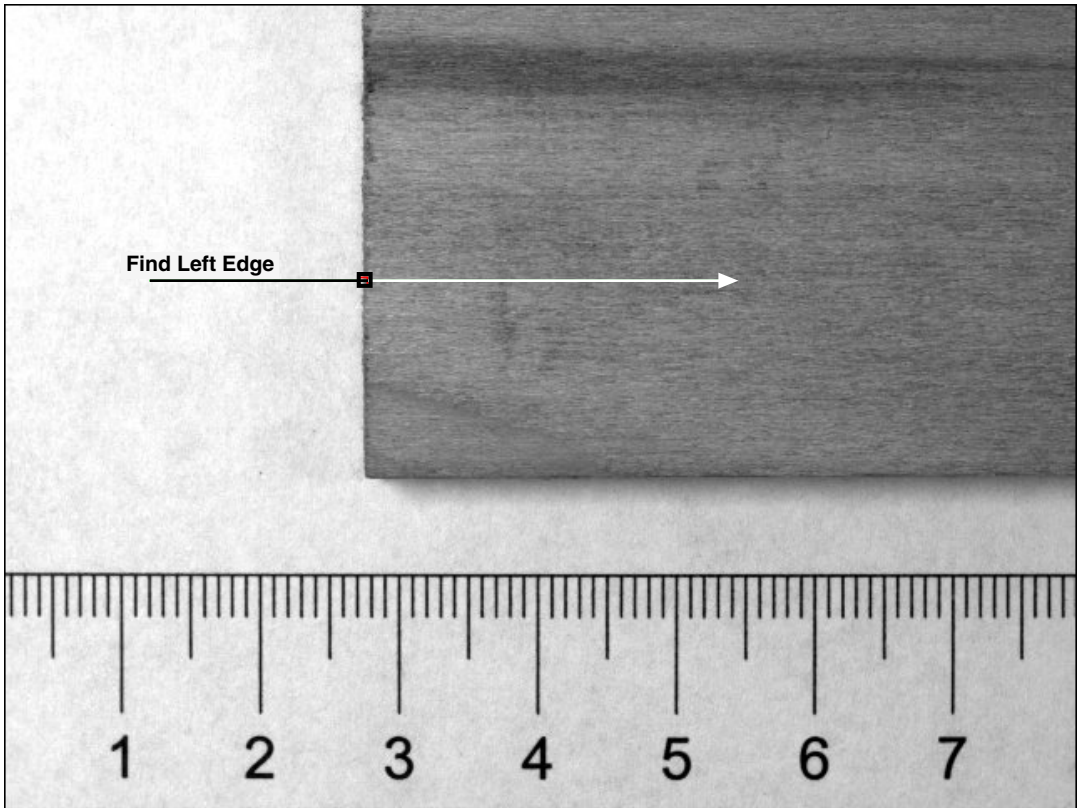

Figure 5-6. Finding the Left Edge of the Plank
4. Hold down <Shift> and draw a line across the left edge of the part going from left to right, as shown in Figure 5-6.